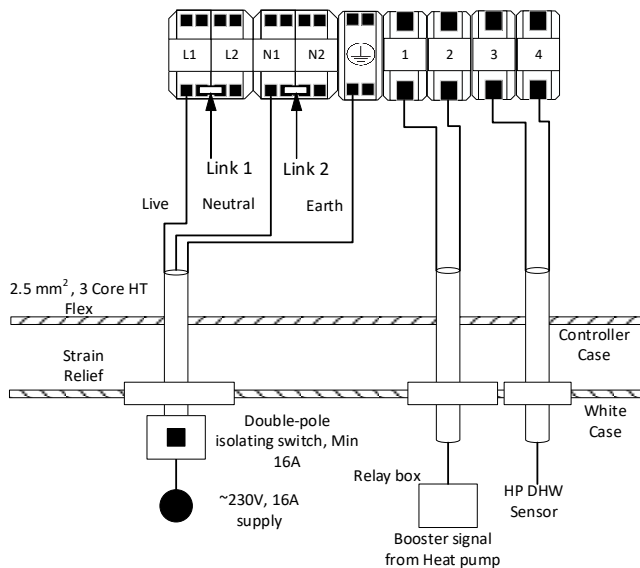

Figure 13.2: Wiring Option 2 - *Thermino hp-DN Low Temperature Heat Pump*
- Using the cable assembly provided (C2293), plug the connector end in the Daikin Indoor unit “EHBH04/8D6V” controller PCB plug terminal X13A (please refer to Heat pump manual). Then run the cable out of the Daikin indoor unit and into the relay box (C2291) provided into “TRIGGER INPUT AC” terminals (please refer to relay box instruction sheet). Then wire the 2 core PVC insulated cable provided (C2295) from the relay box terminals “NO1” & “C1” to the Heat Battery, into the control box housing through the hole available. Secure the cables in Terminal T1 & T2 independently (Figure 13.2). Please note that the polarity of the wires is not important in this wiring setup. Please ensure to use the provided relay backbox (C2292) & 2 x Cable grommets (C2296) when running the wires into the relay box.
Using the cable assembly provided (C2294), place the connector end in the Daikin indoor unit controller “EHBH04/8D6V” PCB connector “X9A” (please refer to Heat Pump manual) , then run the wire into the Heat Battery via the Heat Battery case cabling grommets and then into the control box housing through the hole available. Secure the cables in Terminals T3 & T4 independently (Figure 13.2).